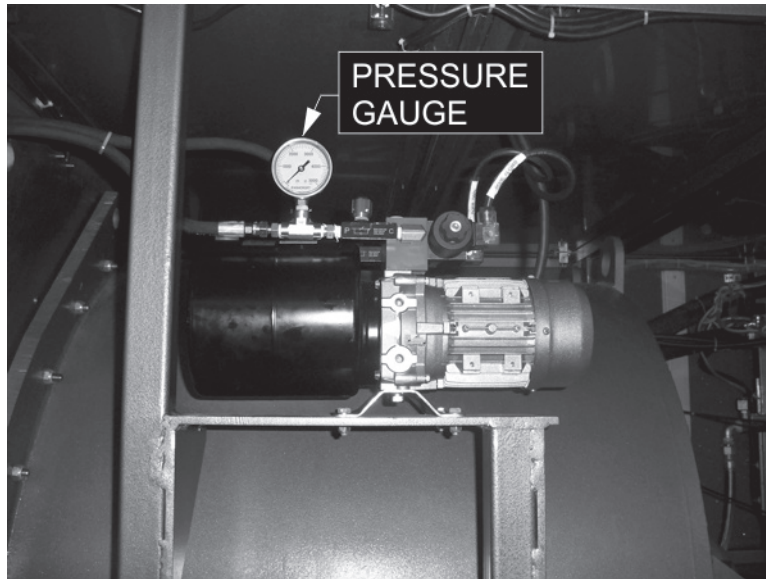
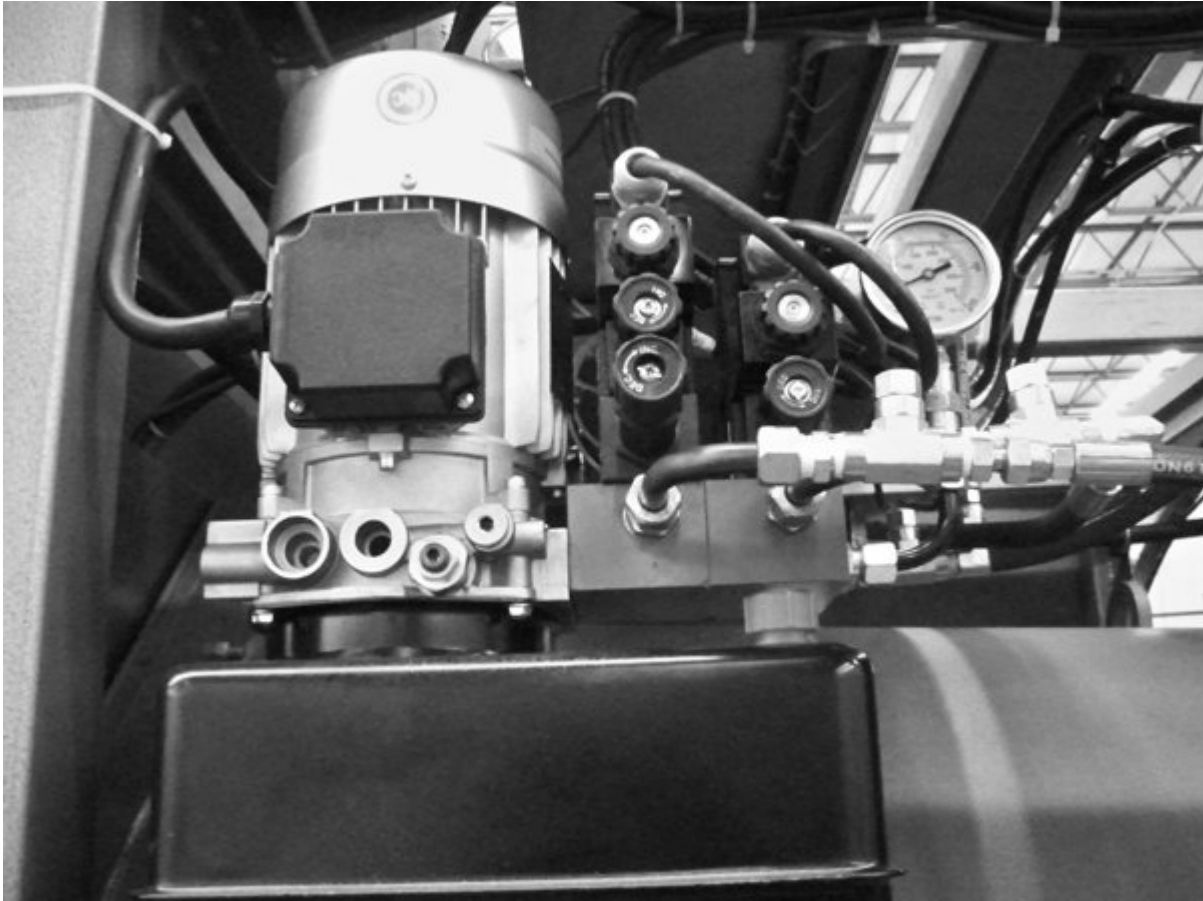

Figure 7.1: Hydraulic Pump Detail
Figure 7.2: Hydraulic Pump Detail for models with Loading Chute Option
6. Verify that the hydraulic pressure does not exceed 200 psi on models with only the hydraulic door assist and 750psi on models with the hydraulic door assist and hydraulic loading chute options during operation. The gauge is mounted on the pump, just inside the frontmost right side panel. See figure 7.1 on page 47 for the hydraulic door only models and figure 7.2 on page 48 for models with the loading chute. If pump pressure is incorrect, adjust using